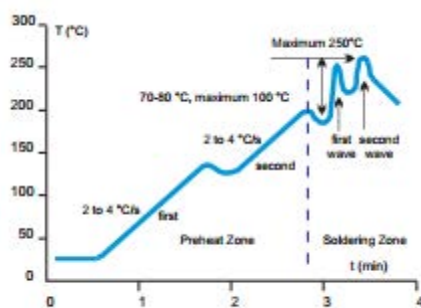

Fig. 1. Wave Soldering Temperature Profile for Pb-free and Pb-containing Soldering
**Thermal Shock** – to avoid the possibility of generating stresses in the varistor chip due to thermal shock, a preheat stage to within 100 °C of the peak soldering process temperature is recommended. Additionally, SMD varistors should not be subjected to a temperature gradient greater than 4 °C/sec., with an ideal gradient being 2 °C/sec. Peak temperatures should be controlled. Wave and Reflow soldering conditions for SMD varistors with Pb-containing solders are shown in Fig. 1 and 2 respectively, while Wave and Reflow soldering conditions for SMD varistors with Pb-free solders are shown in Fig. 1 and 3